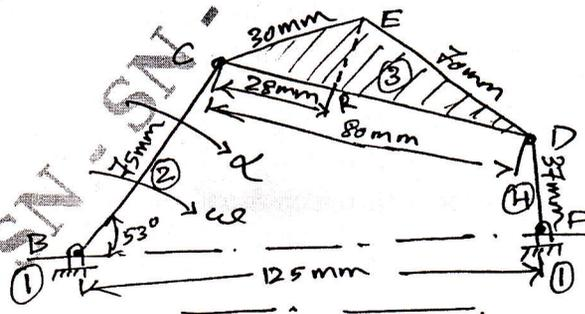

Fig.Q.3
- 3 A four bar mechanism as shown in the Fig.Q.3 below crank BC rotate with an angular velocity of 100 rad/sec and angular acceleration of 4400 rad/sec2 of the instant when the crank makes an angle of 53° to the horizontal. Draw the velocity and acceleration polygon and determine the linear acceleration of point E and R, and the angular acceleration of link 3. (20 Marks)